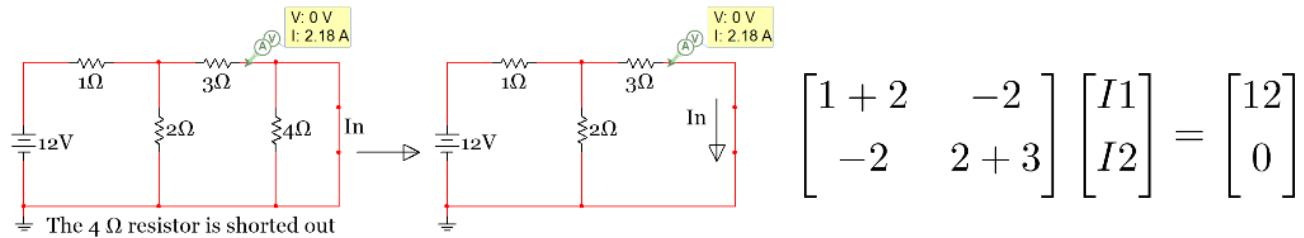

Figure 2.62: Sub-Problem 2 - I_N Calculation – Used in Method 2 to determine $R_{th} = V_{th}/I_N$
- The Mesh Matrix in Figure 2.62 can be solved to give $I_2 = 2.182 \text{ A}$ and $I_2 = I_N = 2.182 \text{ A}$